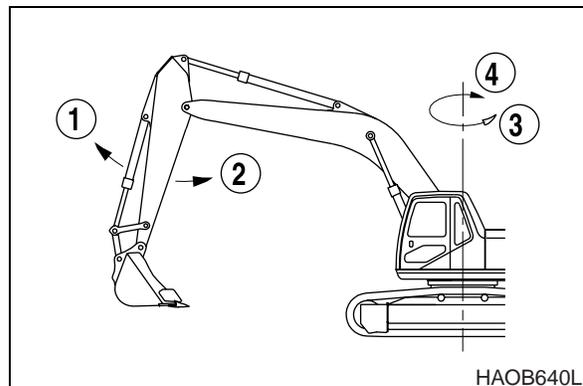

**Figure 48**
## Left Work Lever (Figure 48 and Figure 49)
**Right Work Lever (Figure 48 and Figure 51)**